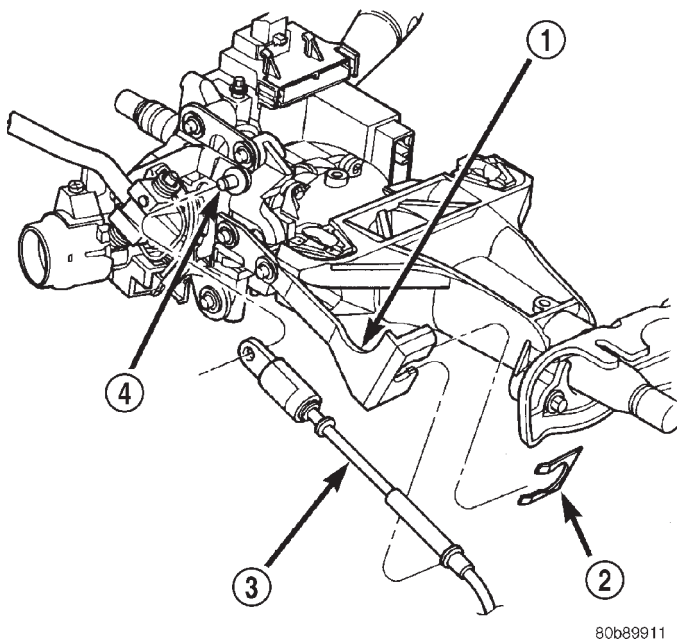

Fig. 46 Column Gear Shift Cable—Removal/Installation
(7) Remove cable from shift pin (Fig. 46).
(8) Remove cable retainer clip from shift cable conduit bracket (Fig. 46).
(10) Tilt steering column all the way up and make sure shift lever is still in "park."
(11) Connect transaxle shift cable to shift cable conduit bracket and secure with new clip (Fig. 46).
(12) Attach shift cable to attaching stud (pin) (Fig. 46) by snapping into place.
(13) Move the steering column to full tilt downward. Put the column shifter in park with key removed.